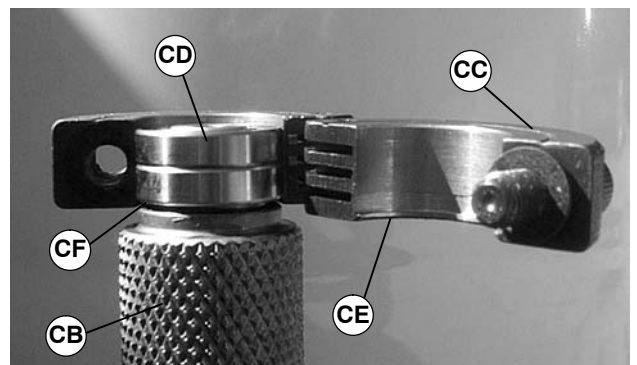

Figure 41
1. Place bearing removal tool (part # 450281) (CC of Figure 41) over bearing (CD) with lip (CE) located in gap (CF) between bearing and spindle (CB) as shown.